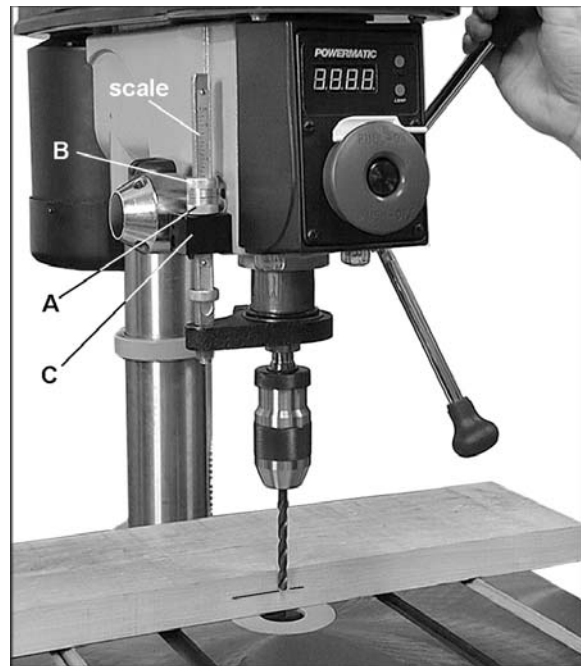

Figure 19
Referring to Figure 19:
2. Rotate the bottom nut (A, Figure 19) to this measurement on the accompanying scale.
3. Bring the top nut (B, Figure 19) flush with the bottom nut. This will prevent any movement of the bottom nut as it contacts the seat (C, Figure 19).
Alternatively, for less precise drilling, you can lower the bit to the desired depth, as shown in Figure 19, and tighten both nuts (A and B) against the seat (C).